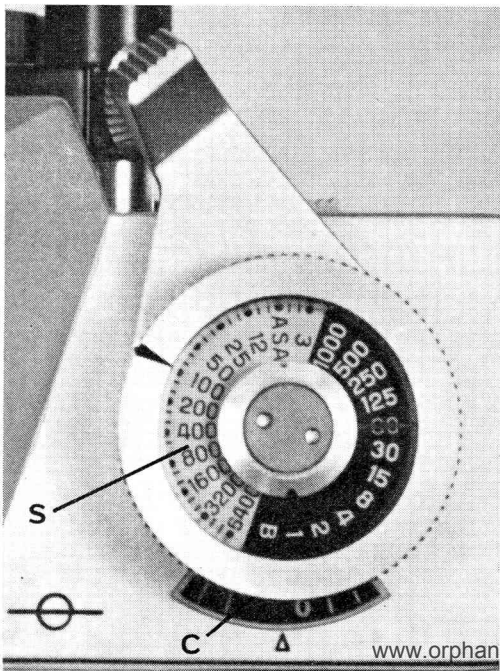

Fig. 7
The automatic frame counter (C Fig. 7), which always starts 3 numbers below 0, advances simultaneously to 0.
Usually you set your shutter speed first, based on the moving or stationary subjects (Fig. 7). Slide shutter release lock towards lens (V Fig. 14). Keep release button (D Fig. 14) depressed and turn diaphragm ring until the well illuminated needle is centered (see page 9). If your picture is properly framed and focused, simply slide back lock (V) and press release button (D) to take your picture.